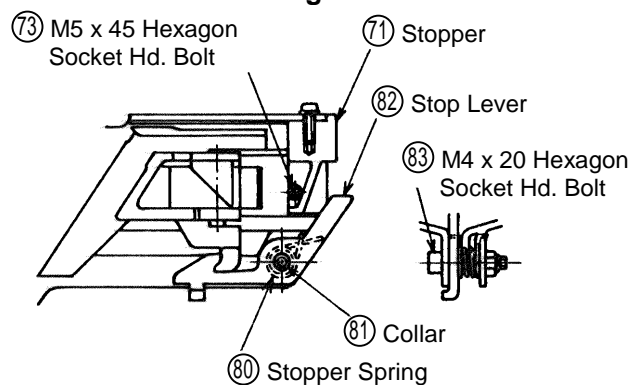

Fig. 18 Reassembly of the Stop Lever, Stopper Spring, etc.
(b) Reassembly: (see Fig. 18)
- As illustrated in Fig. 18, insert the Collar (81) into the Stop Lever (82), and mount the Stopper Spring (80) with the M4 x 20 Hexagon Socket Hd. Bolt (83) (see Para. 1-4 for tightening torque). At this time, the Stopper Spring (80) must be assembled so that one of its hooked portions is inserted into the Stop Lever (82), and the other hooked portion is inserted into the Magazine (38).
- Fix the stopper (71) in position with the M5 x 45 Hexagon Socket Hd. Bolt (73) (see Para. 1-4 for tightening torque).